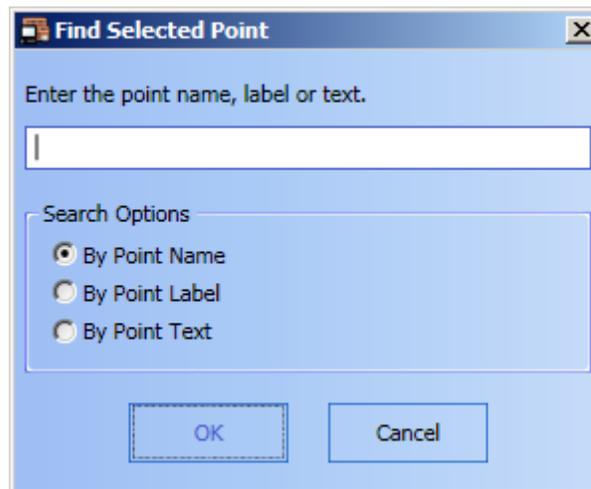

Figure 9-17 Find Selected Point Dialog Box
3. The **Find Selected Point** dialog box appears, as shown in Figure 9-17.